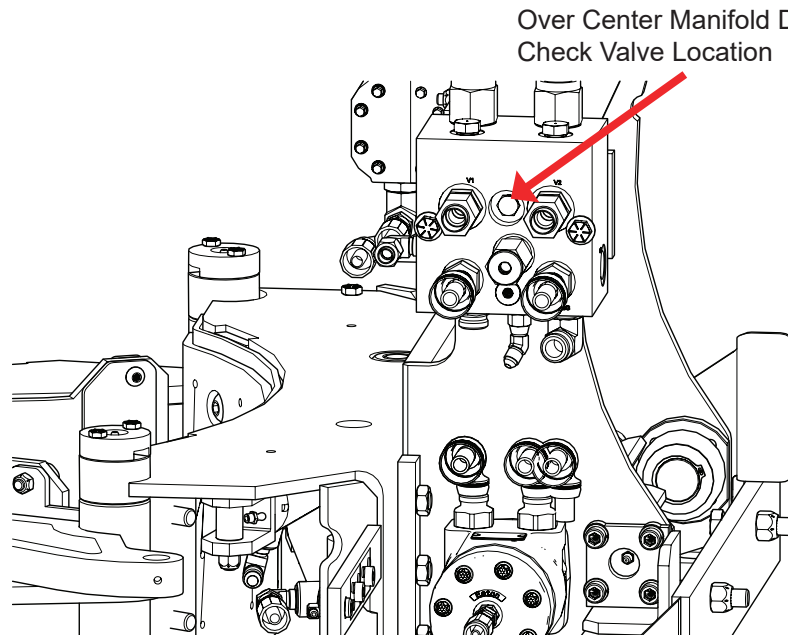

Figure 4
9. Remove and inspect the double check valve from the Over Center Manifold Valve for contaminants (location shown on Figure 4).